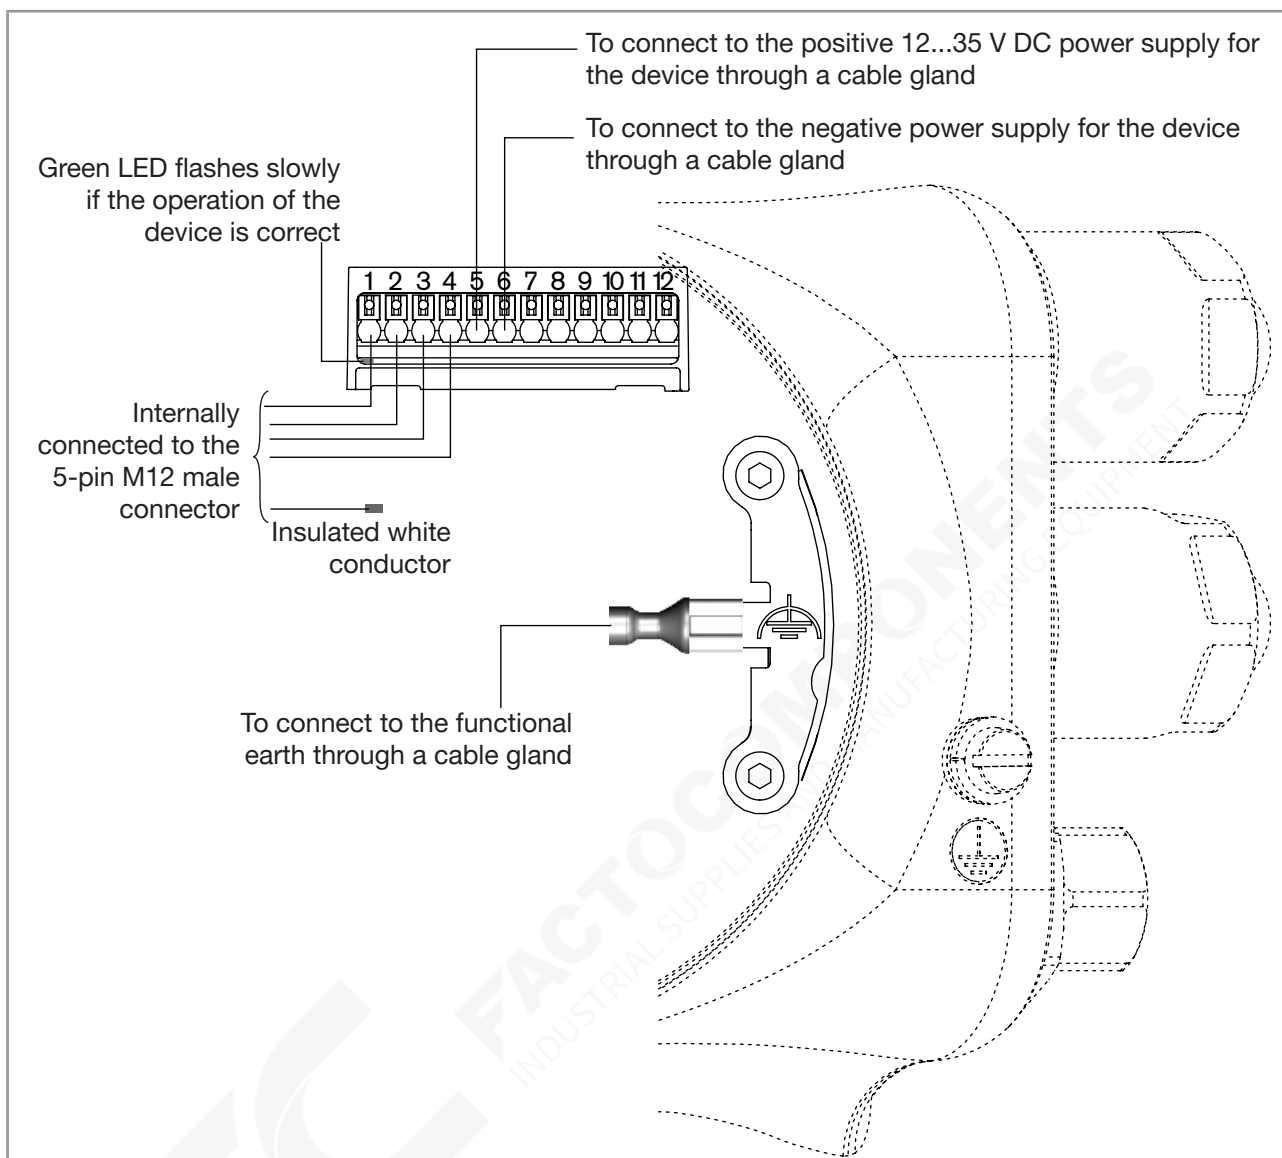

Fig. 31: Connecting the 12...35 V DC power supply through the M20x1.5 cable glands
- either to the functional earth plate in the transmitter housing (see Fig. 31 in chapter 8.13),
3. Connect the power supply as shown in Fig. 31.